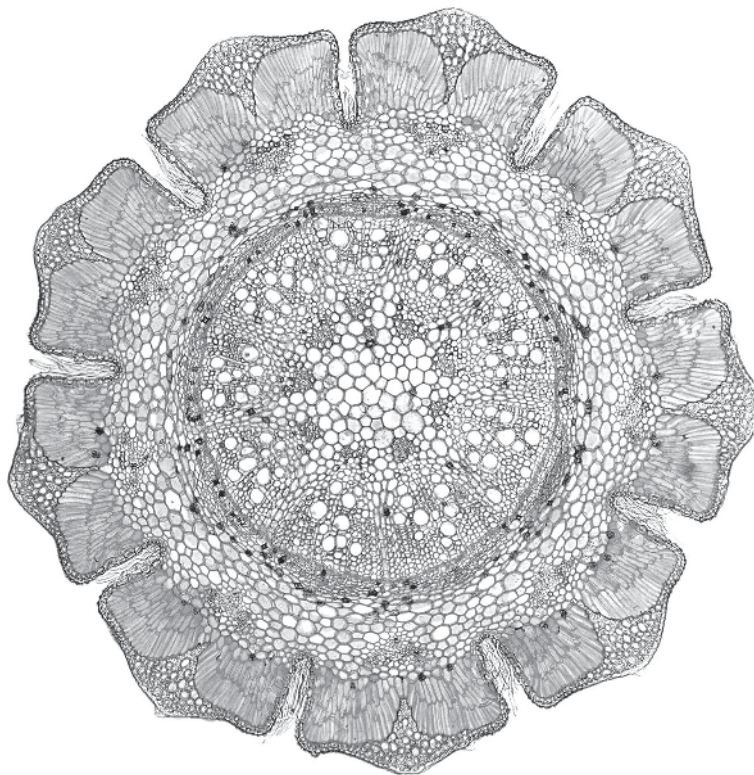

Fig. 2.1
- (iii) Fig. 2.1 is a photomicrograph of a stained transverse section of a stem from a different type of plant from **J1**.
Identify **three** observable differences, other than colour, between the stem section on **J1** and the stem section in Fig. 2.1.